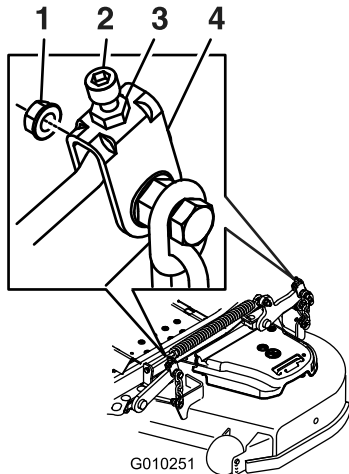

Figure 86
- If needed, loosen the whizlock nut on the side of the yoke and the jam nut on top. Fine tune the screw adjuster by turning it to get 7.6 mm (3/4 inch) height (see Figure 86).
- Fine tune the screw adjuster by turning it to get 8.3 mm (3/4 inch) height (Figure 86).